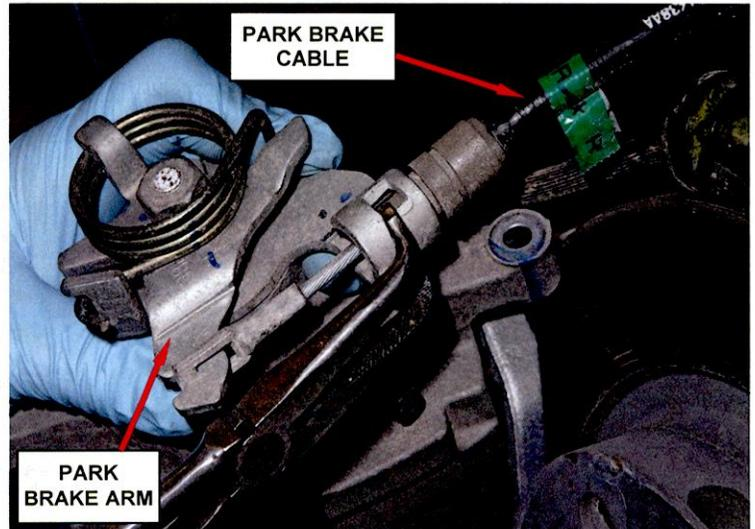

Figure 16 – Park Brake Cable at Brake Caliper
7. Disconnect the park brake cable from the brake caliper (Figure 16).